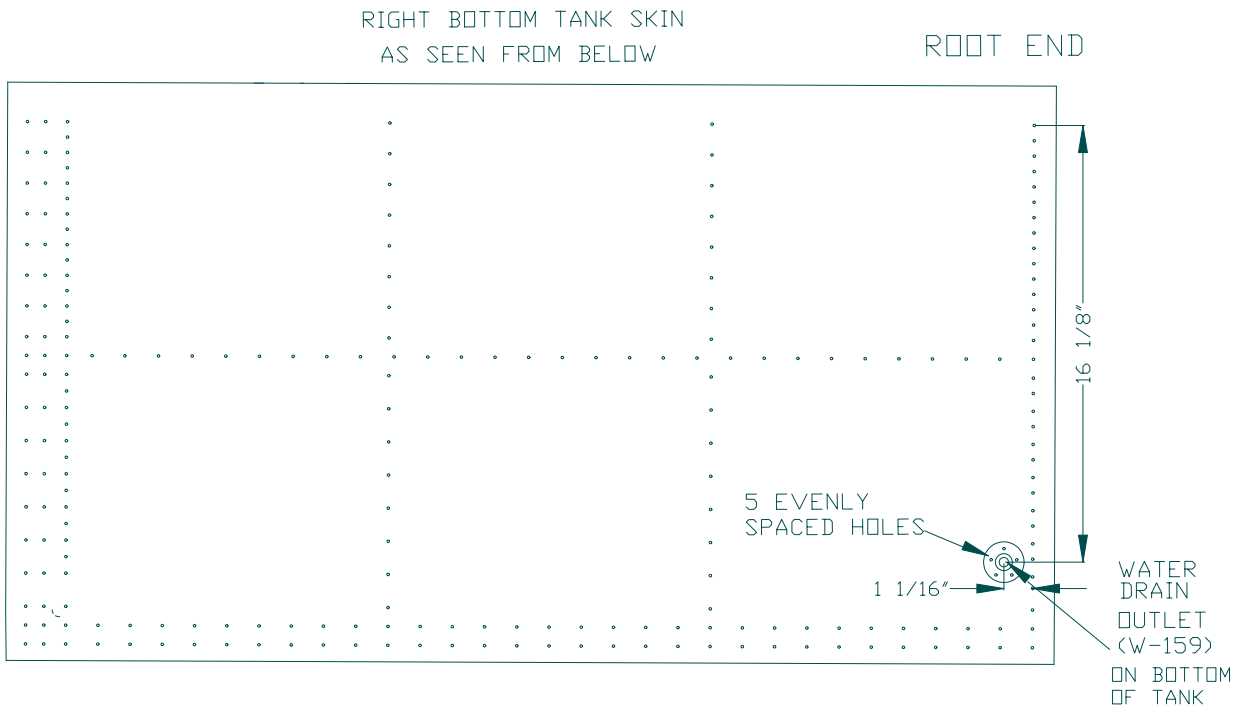

Figure 8.24.1
1) Drill five #30 holes through the Flange of a Water Drain Outlet (W-159) and into the Bottom Tank Skin. Drill out the center to 5/16". Figure 8.24.1.